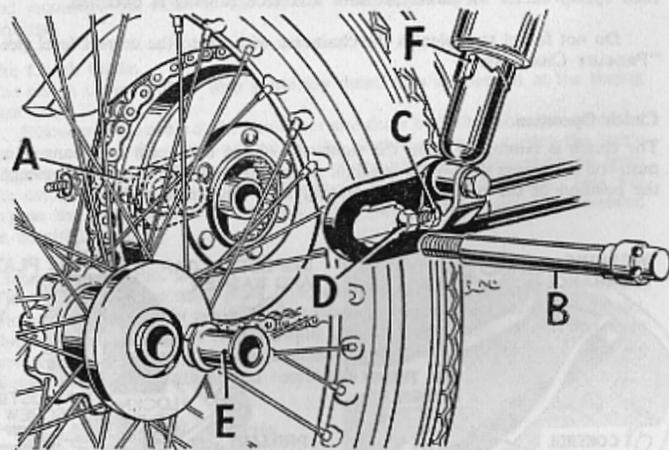

FIG. 21. Rear wheel removal, also showing the position of the adjuster bolts for moving the wheel. (Speedometer drive not shown).
Put the machine on its centre stand. To adjust the chain, the rear wheel must be moved. First, the nut securing the torque arm to the brake plate must be slackened slightly so that the plate may pivot freely. Slacken the spindle (B) Fig. 21, on the right-hand side of the machine, a few turns, and then nut (A) just sufficiently to allow the wheel to move.
Removal of the wheel does not affect the chain or brake adjustment. Remove the spindle (B) Fig. 21. It has a normal right-hand thread and therefore unscrews in an anti-clockwise direction. The distance bush (E) falls clear when the spindle is removed and the wheel can then be pulled away from the brake drum and withdrawn from the machine.